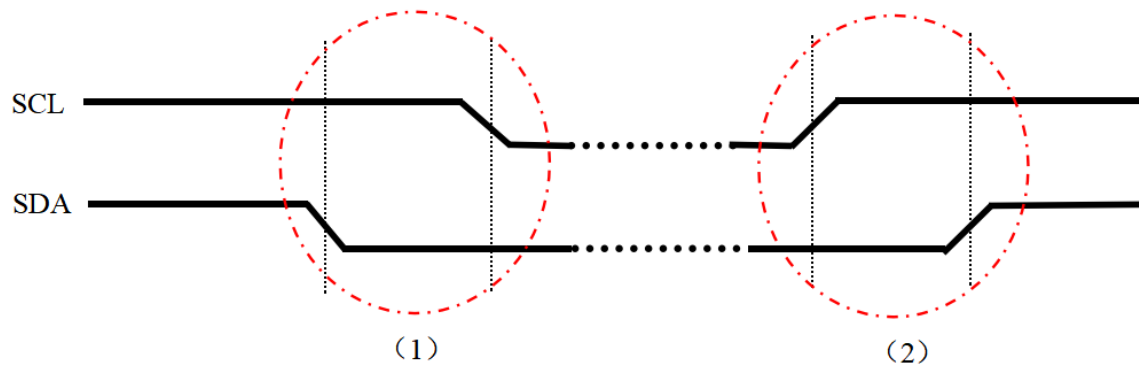

Figure 11 Start transmission state (S) and stop transmission state (P)
Each transmission sequence starts with the Start state and ends with the Stop state, as shown in (1) and (2) of Figure 11.